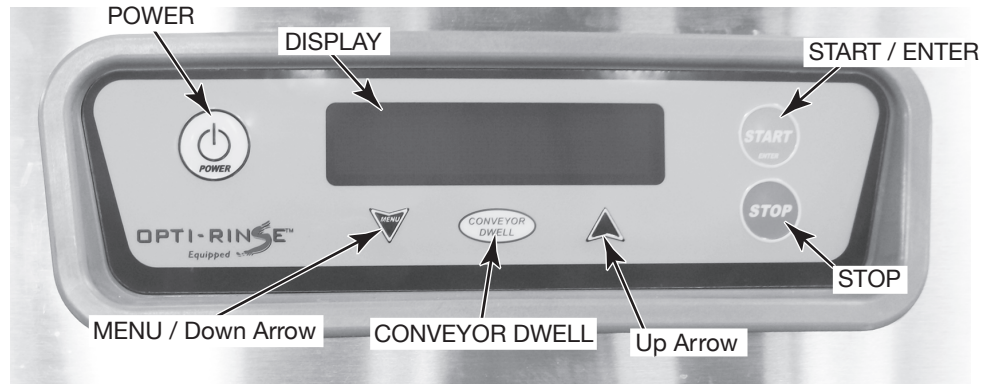
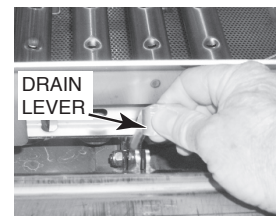

Fig. 19
Fig. 21
The controls are mounted on top of the dishwasher. The Keypad and Display are mounted in front of the control box (Fig. 19).
Close all doors. To begin filling after the machine is ready, press the POWER key (Fig. 19).
5. Press the POWER key on the keypad (Fig. 19). Dishwasher will fill automatically (refer to Filling the Dishwasher, this page). After the tank has filled, the burner will ignite if heat is required. The ignition system includes a 15-second pre-purge period before ignition occurs.
6. If the dishwasher will not operate, press the POWER key on the keypad (Fig. 19) and turn the manual gas valve Off. Call your local Hobart service office or gas supplier.
After the machine has filled, start the pumps by pushing the START / ENTER key on the keypad (Fig. 19) or by inserting a rack into the machine.
The conveyor dwell feature, standard, allows the operator to stop the conveyor in order to wash heavily soiled dishes for a longer time. When the dish rack reaches the wash chamber, push the CONVEYOR DWELL key on the keypad (Fig. 19) to momentarily stop the conveyor. To restart the conveyor, press either the START / ENTER or the CONVEYOR DWELL keys on the keypad (Fig. 21).
If the rack jams or if the load becomes excessive, an overload mechanism shuts off the conveyor drive motor and 'Clear Conveyor Jam' displays. Open the doors and remove the jam. After the jam is cleared, close the doors and push the START / ENTER key on the keypad (Fig. 19) to restart the dishwasher.
All tank temperatures are shown on the Display (Fig. 19) when the machine is in operation. The Final Rinse temperature displays --- until a rack is in the rinse zone; then, the Final Rinse water temperature displays. After the ware exits the rinse zone, the Final Rinse temperature display returns to --- .
To conserve energy, if no rack enters the machine for a preset amount of time, the Auto-Timer counts down and the pumps and conveyor shut off. Tanks continue to heat, and tank temperatures display. To resume operation, insert a rack or press the START / ENTER key on the keypad (Fig. 19).
After a period of machine inactivity, the control initiates Energy Saver Mode (ESM): All warewasher components are turned off, and the display on the control dims, displaying 'Energy Saver Active / Press STOP to Exit'. To exit Energy Saver Mode, press the STOP key (Fig. 19). You may press the POWER key to completely turn the machine off. The period of machine inactivity prior to ESM can be set from 1 to 6 hours in the Parameters Menu; 2 hours is the factory setting. Refer to page 27.
1. Press the POWER key on the keypad to turn the machine Off (Fig. 19).
4. Open drain(s) by pulling drain lever(s) up (Fig. 21).
Delimiting instructions: Follow instructions on the delime-chemical container. During delimiting, machine should be on with pumps running, but the conveyor can be idle. Press the CONVEYOR DWELL key on the keypad (Fig. 19) to turn off the conveyor motor and conveyor during delimiting.